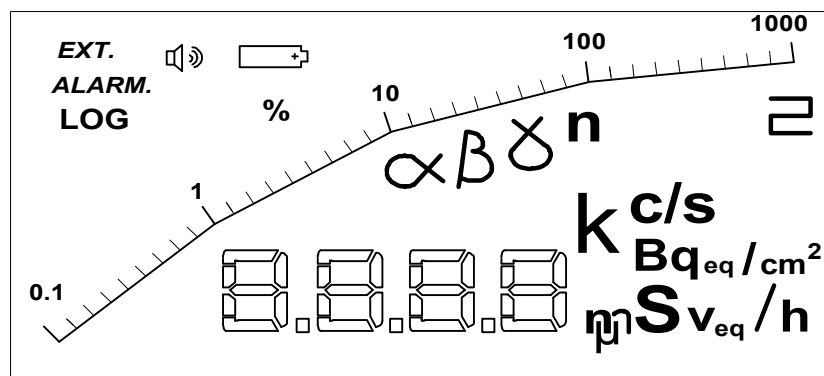

Figure 1.
- Tests all the LCD segments (Figure 1), and activates the audible alarm (2 beeps)